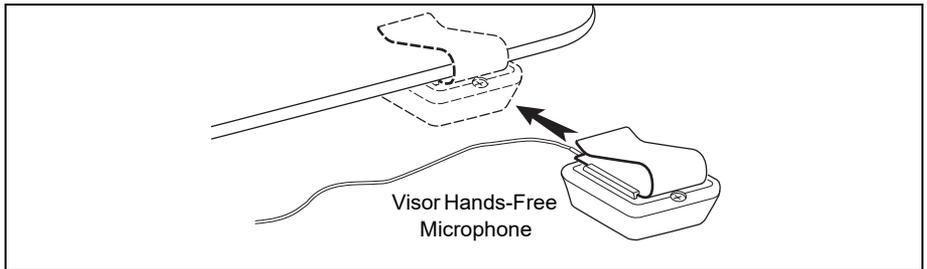

Figure 4: Visor Microphone Installation Detail
1. Referring to Figure 4, clip the microphone to the vehicle visor.